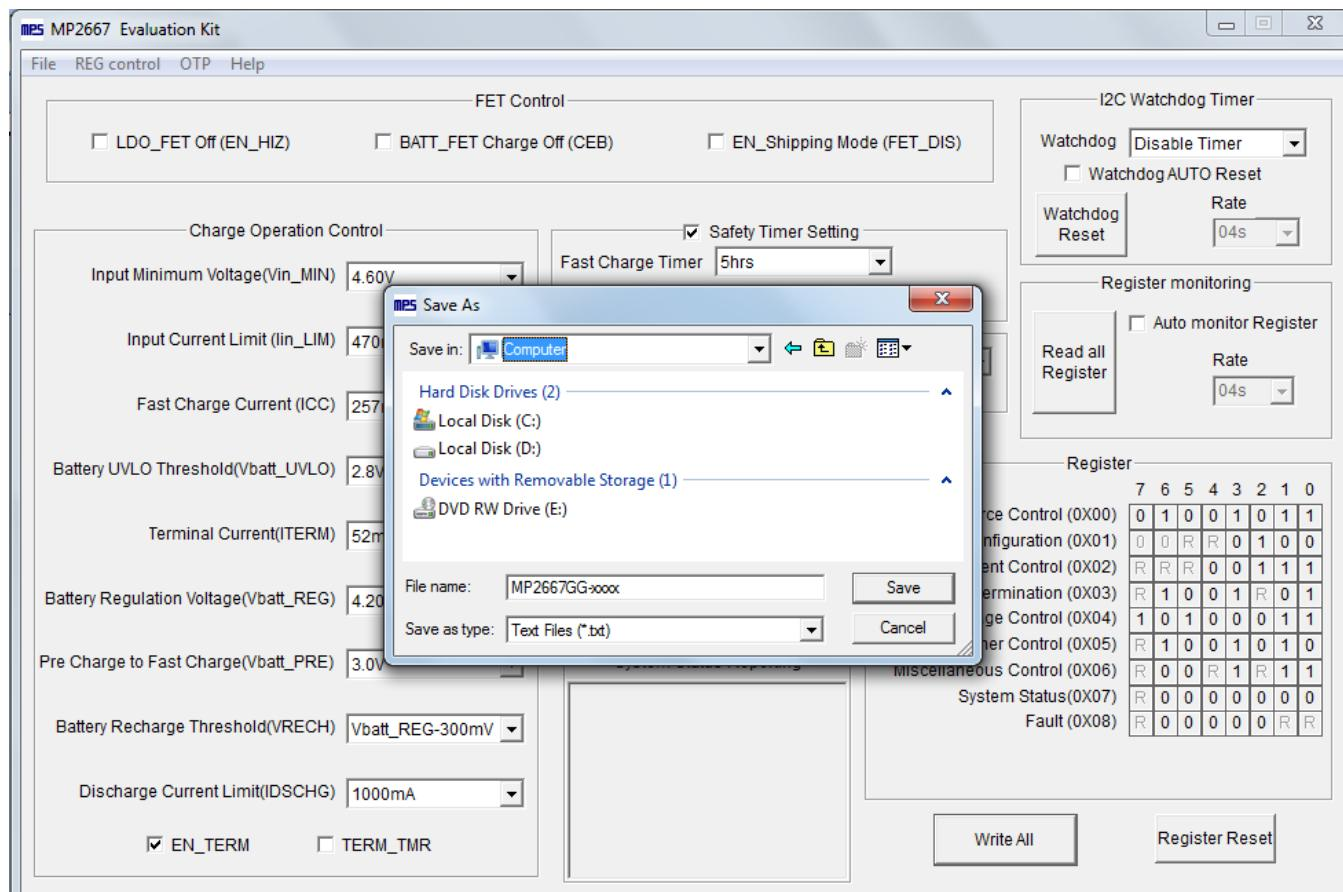

Figure 11: Various Locations Available to Export To
6. Find a location for the exported file, and click “Save.” The customized configurations will be saved in a .txt file (see Figure 11).